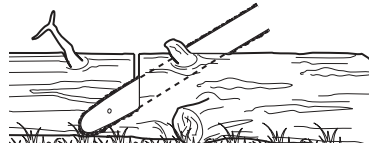

Fig. 43
- > Follow the simple directions for easy cutting. When the log is supported along its entire length (Fig. 43), it is cut from the top (overbuck).